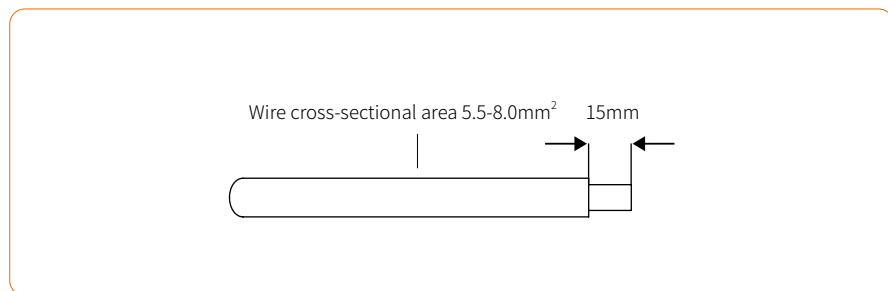

Figure 4-22
- ② Peel off the DC cable insulation sleeve for 15 mm, as shown in Figure 4-22: